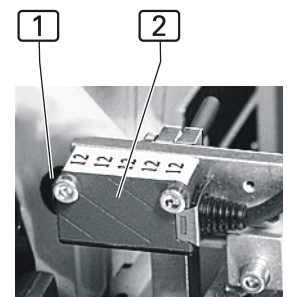

Fig. 9
1. **Fig. 9:** Ensure that the light beam of the photocell **2** is not interrupted by objects.